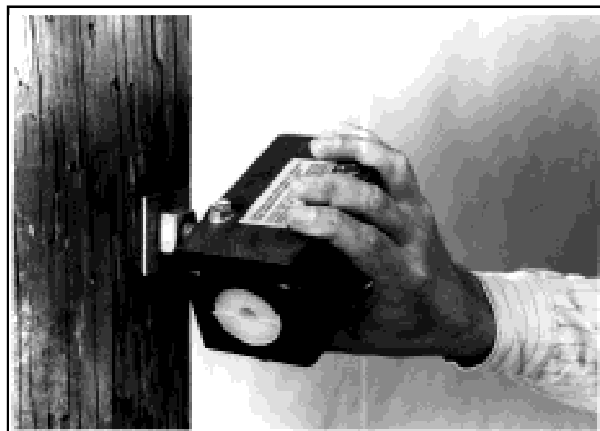

FIGURE 3
4.03 Thread the body of the support, Figure 3, on the double-arm bolt until it bottoms out. Then, back it off until the body is situated in a horizontal position.